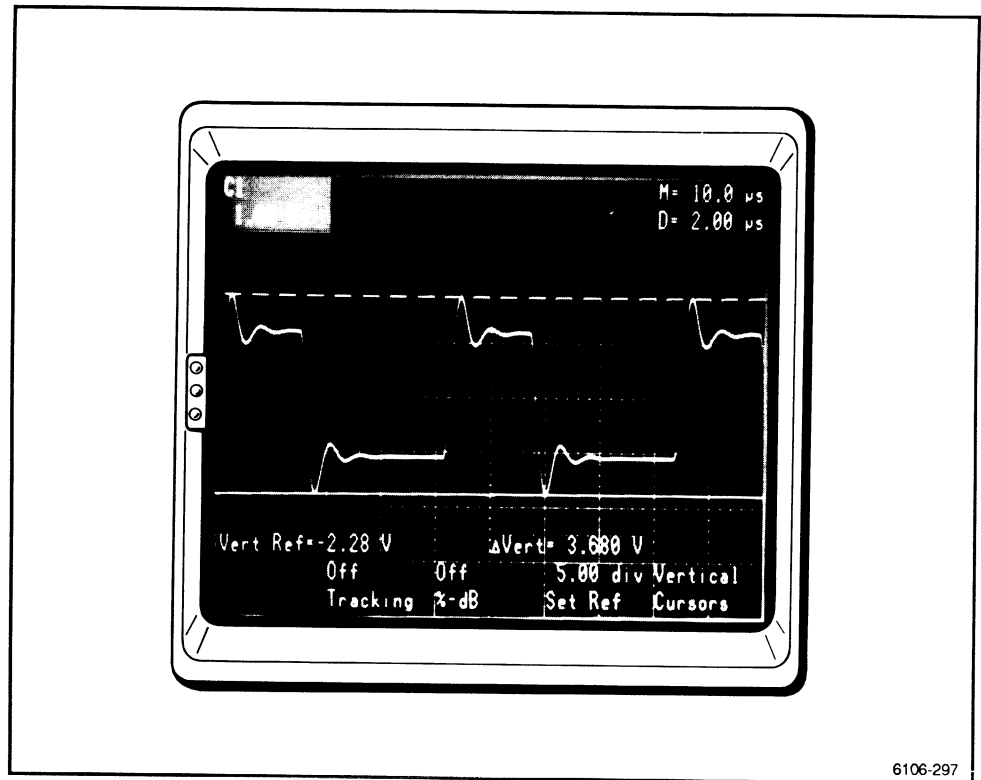

Figure 2-98. Cursors set to peaks of displayed waveform, and p-p voltage (ΔV).
7. The p-p voltage value will appear as ΔV toward the lower right of the crt. (See Fig. 2-98.)